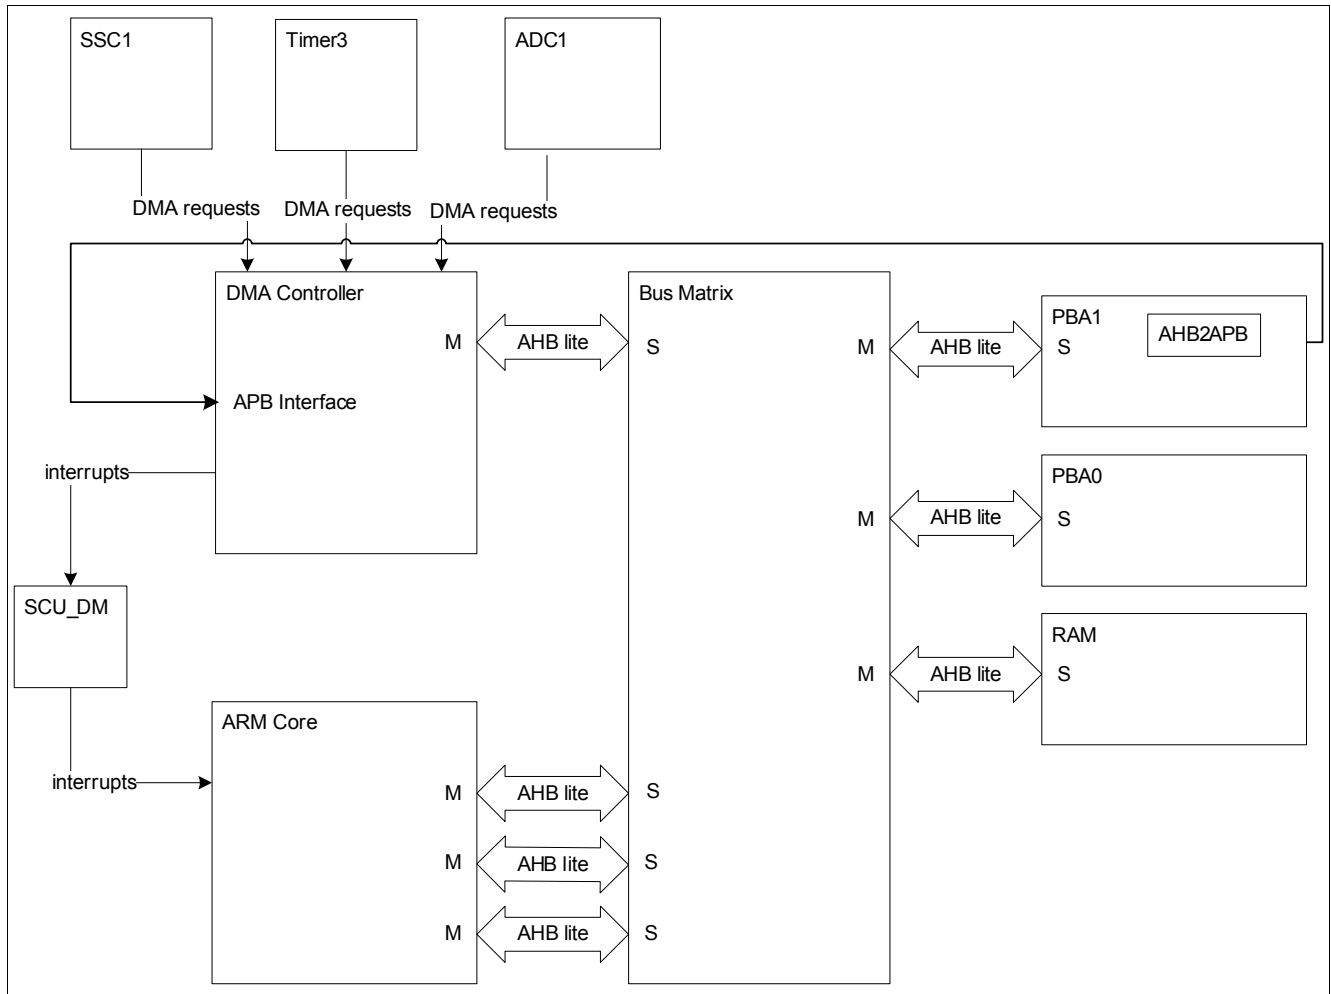

Figure 13 DMA Controller Top Level Block Diagram
**Figure 13** shows the Top Level Block Diagram of the TLE9869QXA20.